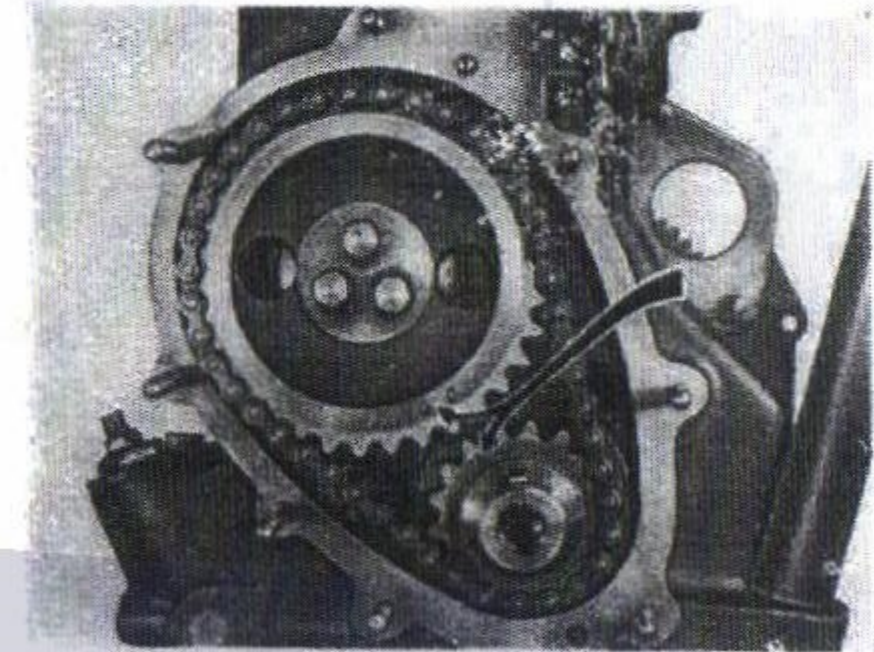

Fig. 48.
e) Make sure that the marks "O" stamped on the distribution gear wheel and on the crankshaft pinion correspond. Then fit the chain (Fig. 48).